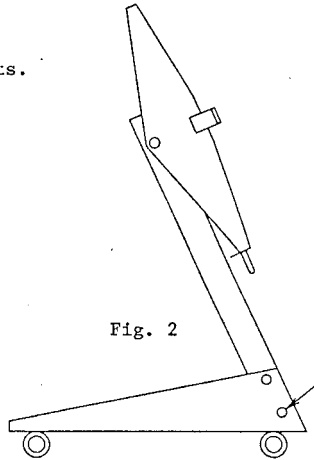

Fig. 2
- 2. Move frame as shown in Fig. 2, and install 2 bottom hexagonal bolts. Tighten all 4 bolts securely.